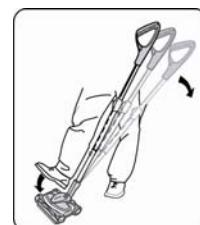

Fig. 9
3. To release the handle to a comfortable position, gently apply pressure to the top of the sweeper head with your foot while pulling back on the handle. (Fig. 9)